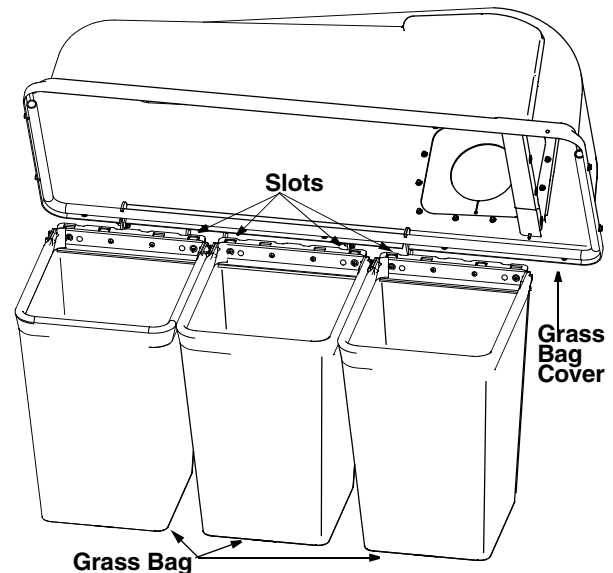

Figure 4
- Attach the grass bags using the slots shown in Figure 4. Close the grasscatcher cover.